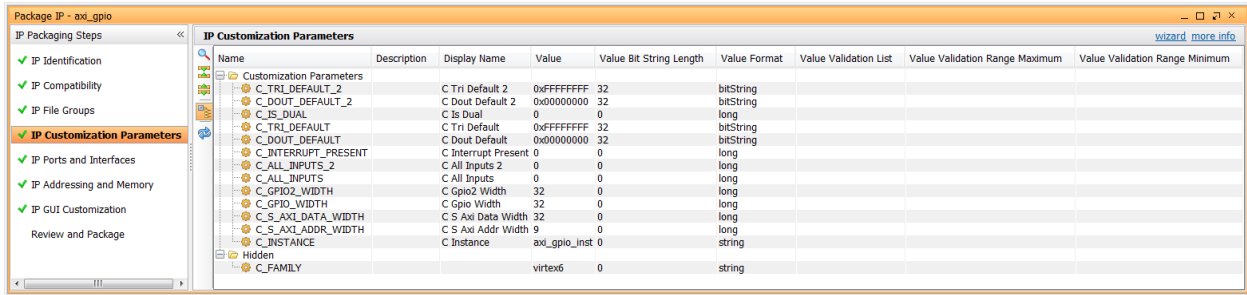

Figure 153: IP Customization Parameters Page
14. Click IP Customization Parameters to open the IP Customization Parameters page (FIGURE 153).